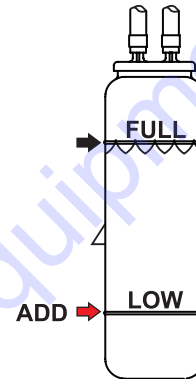

Figure 34. Coolant Reserve Tank
- Verify that the coolant level in the coolant reserve tank is between the **FULL** and **LOW** markings as shown in Figure 34.